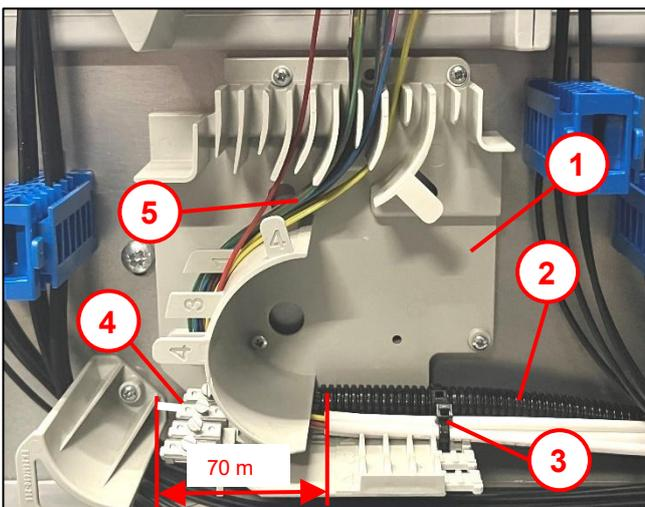

Fig. 25
Regarding mounting on the cable organiser access on the door see Fig. 25.
- Strip the core of fibre cable (3) to 70 mm and guide under the clamping yoke (1). **Note:** Alternative strain relief on the door side, see Fig. 25.
- Protect the bundled loose tube fibres (9) in the area of the clamping yokes with a spiral tube (10).
- Strip the bundled loose tube fibres (4) as per the specification.
1. Strip the protective tubes (7).